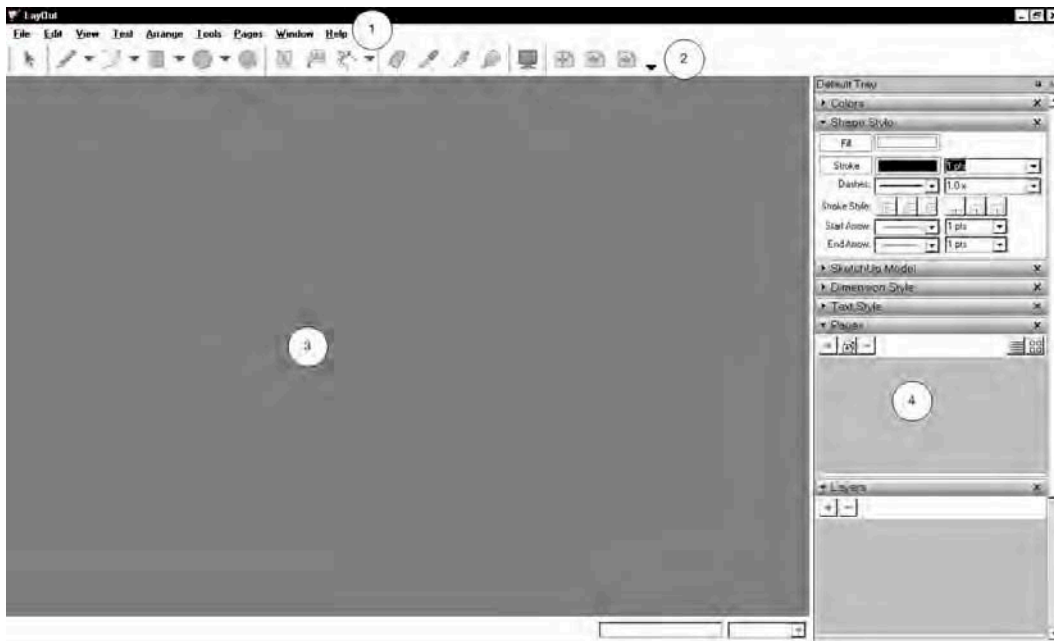

Figure 11-2. LayOut window
Double-click the LayOut 3 icon on your desktop. Notice that LayOut looks similar to other software packages. It has a menu bar (1), toolbar (2), document window (3), and panels on the right (4) (Figure 11-2).